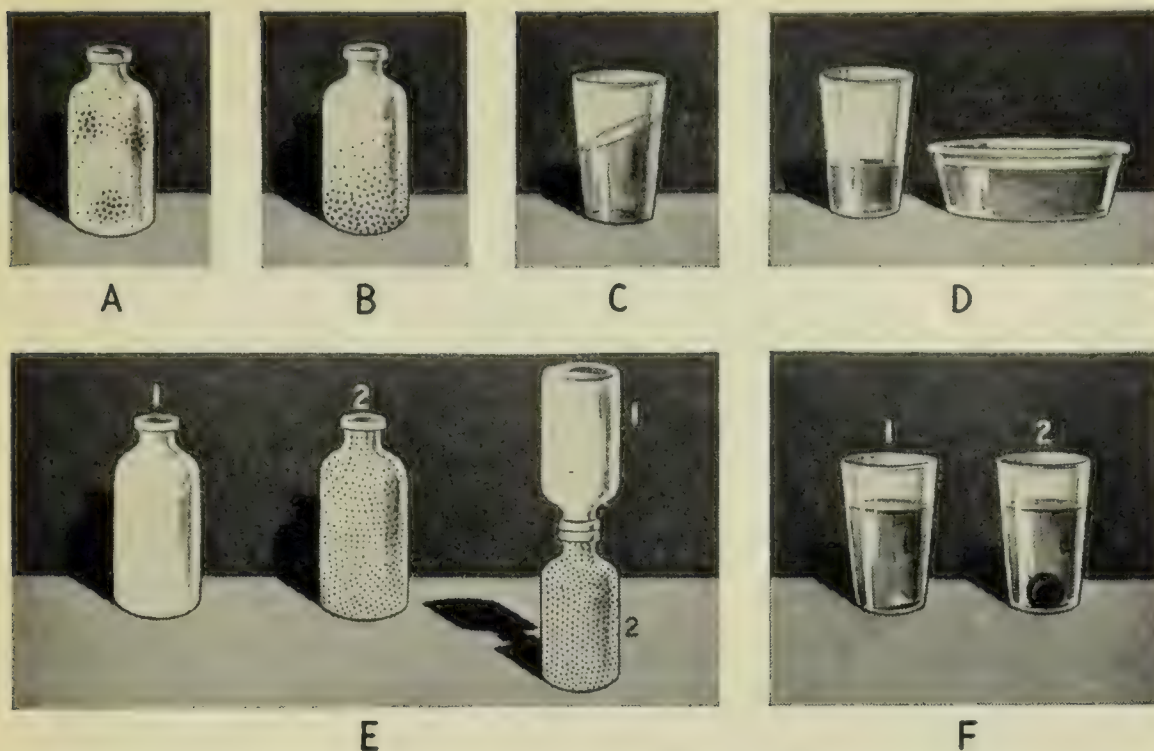

FIG. 20. Each of these drawings is wrong in some way. The problems below tell you what to do.
4. Drawing A of Figure 20 represents a bottle of air. The little dots in the bottle are particles of air. What is wrong with this drawing? Make a drawing that is correct.
7. Refer to Drawing D of Figure 20. All of the water in the pan was poured from the glass. Make a correct drawing.